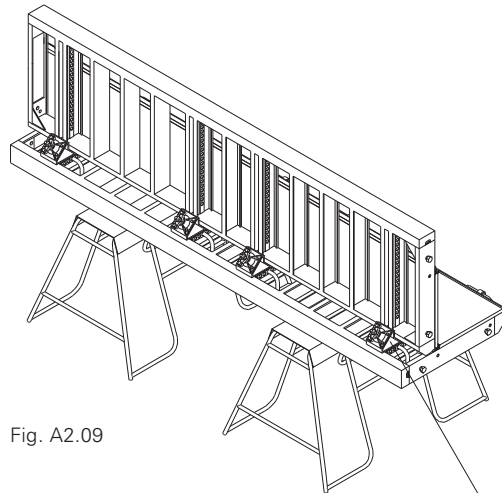

Fig. A2.09
1. Place second pre-assembled column frame on the first column frame. (Fig. A2.09)